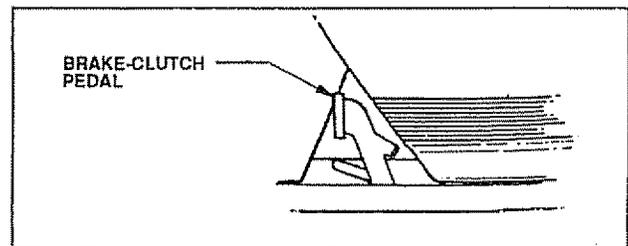

Fig. 30A
### TO ADJUST TRACTOR DRIVE BELT (See Figs. 30A and 30B)
- The brake-clutch pedal should appear as shown in Fig. 30A when in the fully released position. If not, then the following adjustment is necessary.
- The brake-clutch pedal should appear as in Fig. 30A on page 27, when in the fully released position. If not, then the following adjustment is necessary.